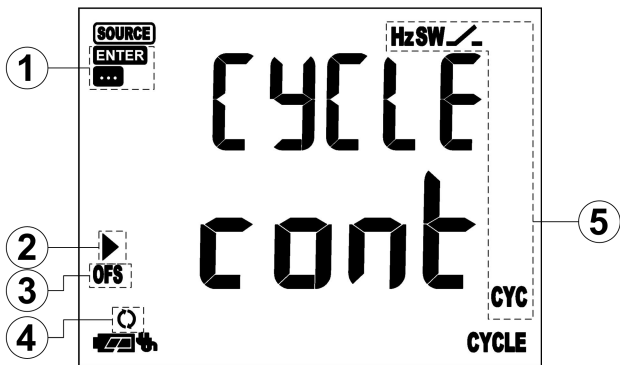

Figure 5.6 Display screen 3 during the operation of frequency signal:
Step 4: The key of [SWITCH] was pressed again to switch to the state of pulse number modification, such as [figure 5.6] (upper row showed: "CYCLE"), then the number key [0~9] was directly pressed to change the pulse number from continuous mode to 1000 pulses.